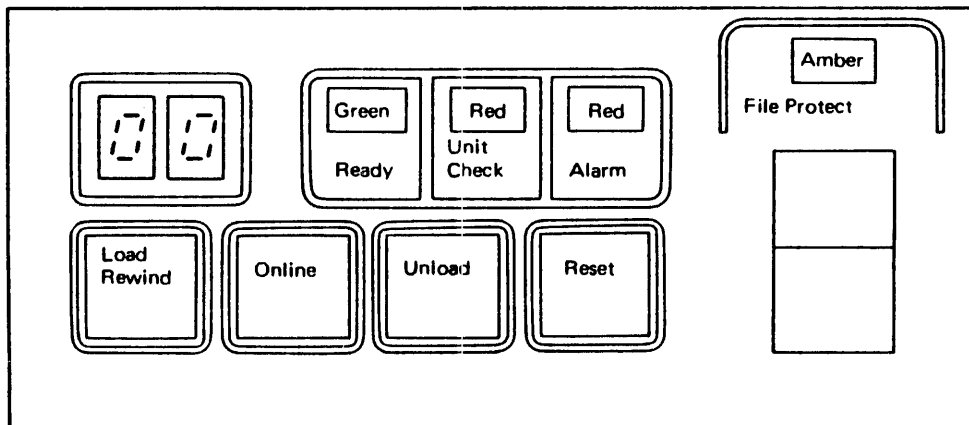

Figure 4-2. MTU operator panel.
- (1) Set the FMT #0 power supply unit LOCAL/REMOTE switch to LOCAL. For a dual-FMT system, set the FMT #1 power supply unit LOCAL/REMOTE switch to LOCAL.
- (2) Set the MTU #0 power supply unit LOCAL/REMOTE switch to REMOTE.
- (3) Press the FMT front panel POWER ON switch to ON.
- (4) Verify that:
- The two-digit display on the MTU operator panel, shown in Figure 4-2, is 00.
- (5) If any indicators are incorrect or the MTU display is not 00, refer to the error codes and corrective actions in the Maintenance Manual.